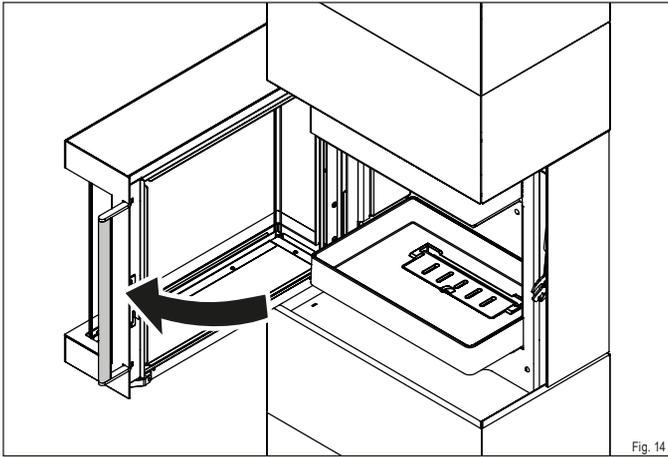

Fig. 14
- ▶ **Open the firebox door (Fig. 14).**
- ▶ **Open the firebox door. (Fig. 14).**
- ▶ Open the firebox door (Fig. 14).